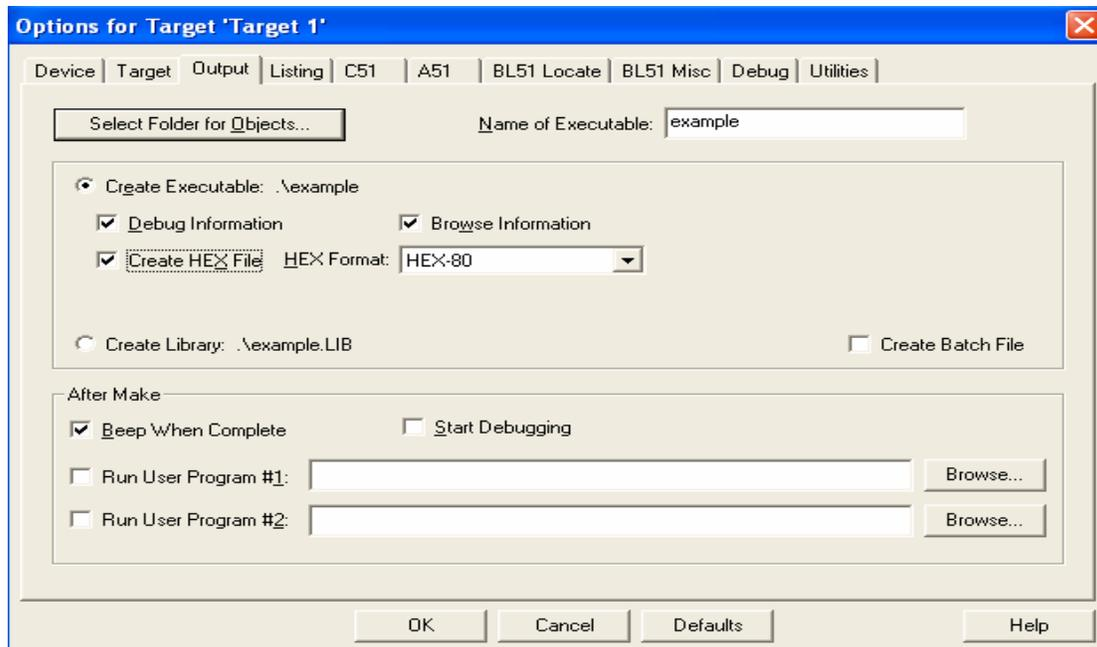

Figure 4: The Output caption
6. Then select the Output caption and enable the “Create Hex file option” as is shown in Figure 4.